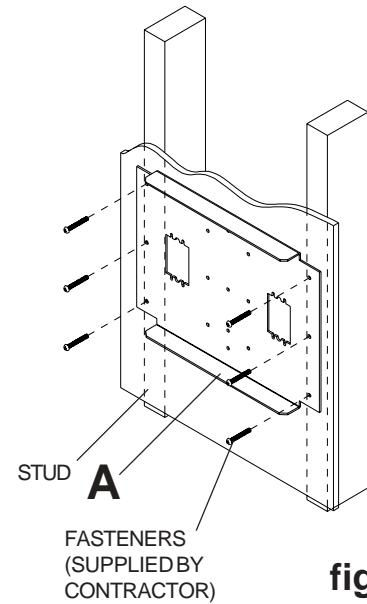

fig. 3
- 2 Mount the wall plate (**A**) securely to the finished wall surface as shown in figure 3 (fasteners must be supplied by the contractor). Make sure that the plate is attached to the wall studs and that the top of the plate is level.